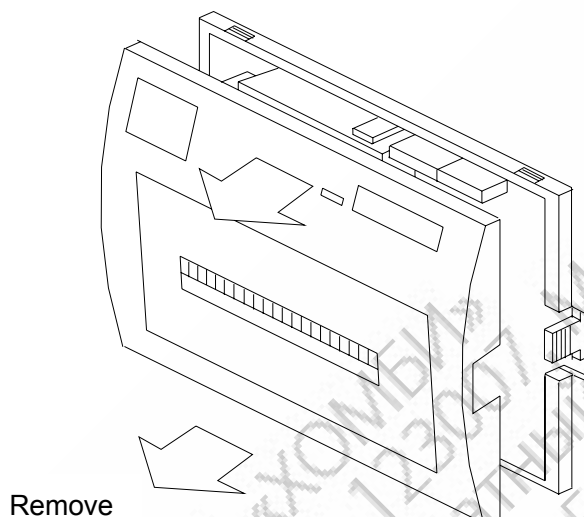

Fig. 8-1
- 1) Remove the printer front cover as shown in Fig.8-1.